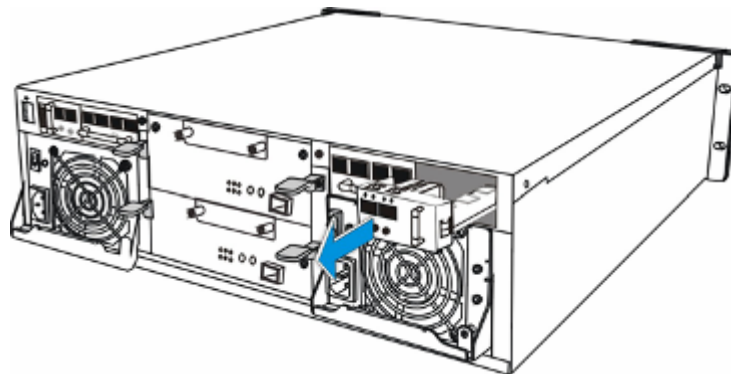

Figure 5-13: Removing the Host Connection Module
Step 3. Remove the faulty module. (See *Figure 5-13*)